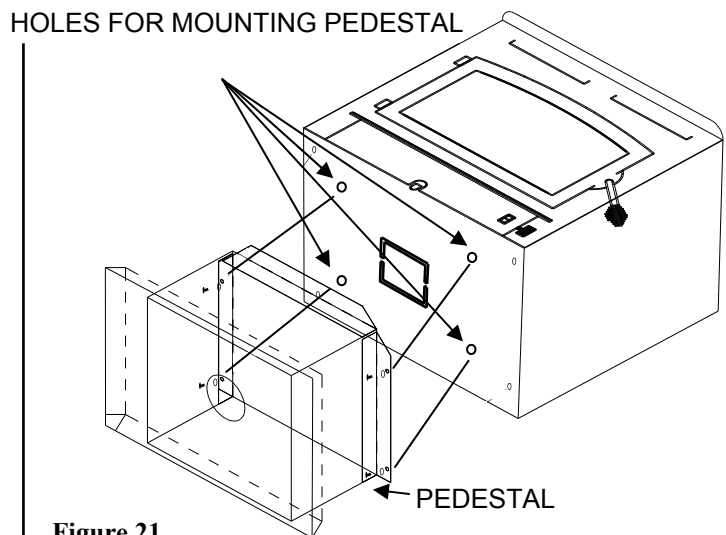

Figure 21
7. Open freestanding kit and obtain the stand. Place the stand against bottom of heater (angle side to heater).Center stand front to rear and also center stand left and right. Mark screw locations on bottom of the stove through outer holes of stand mounting angles. Set stand aside and drill four 7/32" holes in heater bottom.Then mount stand to bottom of heater with screws provided. (See Figure 21).
8. Obtain four (4) 3/16" self-tapping screws and secure the stand to the heater.